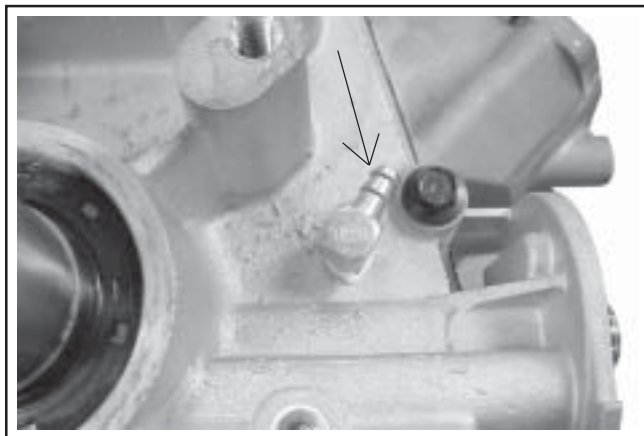

Figure 11-28. Crankcase Vacuum Fitting Position.
8. If the vacuum fitting was removed from the crankcase (vacuum fuel pump), apply **pipe sealant with Teflon®** (Loctite® 59241 or equivalent) to the threads of the fitting and install. With the crankcase upright, the fitting must point to the 1:30 position. See Figure 11-28.